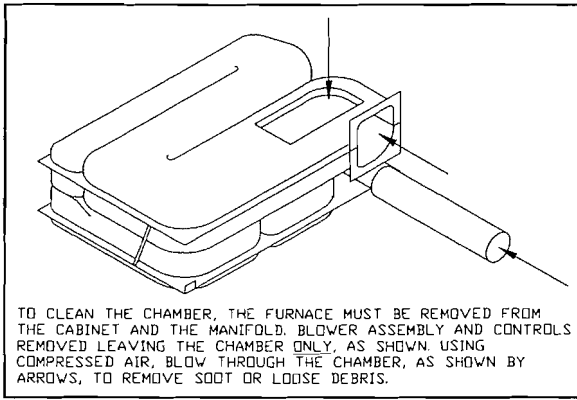

Figure 6
5. Inspect combustion chamber for restrictions in exhaust or intake. It is imperative that the flow of intake combustion air and the flow of exhaust gases being expelled to the outside atmosphere not be obstructed. Any soot or loose debris should be blown out using compressed air. (See Figure 6.)